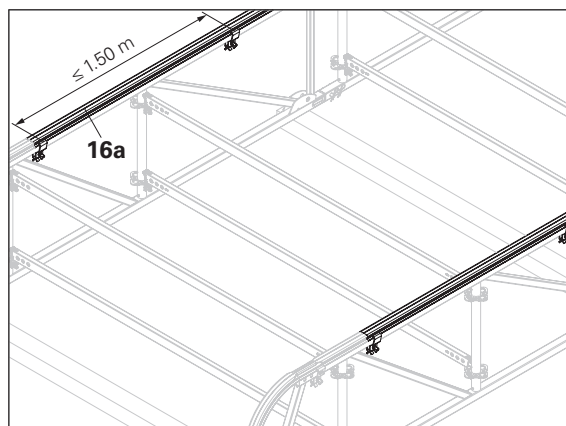

Fig. A2.02
4. Lay additional keder tracks (**16a / 16b / 16c**) adjacent to the eaves track and fasten at the joint and at a distance ≤ 1.5 m with keder connector (**17**). (Fig. A2.02 + A2.02a)